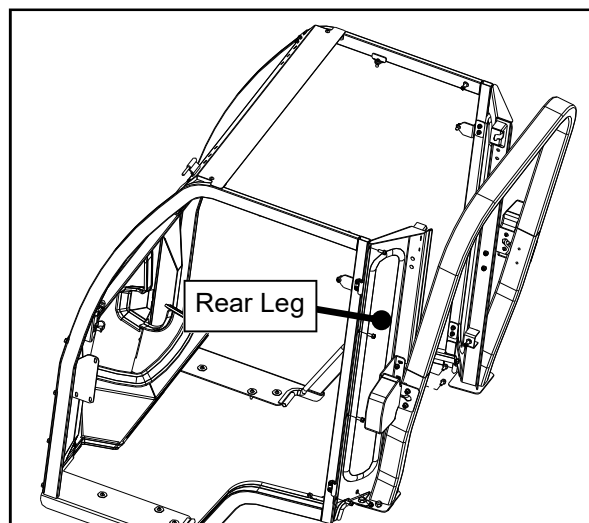

Fig. 9.1 (Rear Leg Installation)
9.1 Install the left side rear leg oriented as shown. Fasten to the side frame and ROPS bracket. See Fig. 9.1. Tighten all fasteners. Repeat for right rear leg.